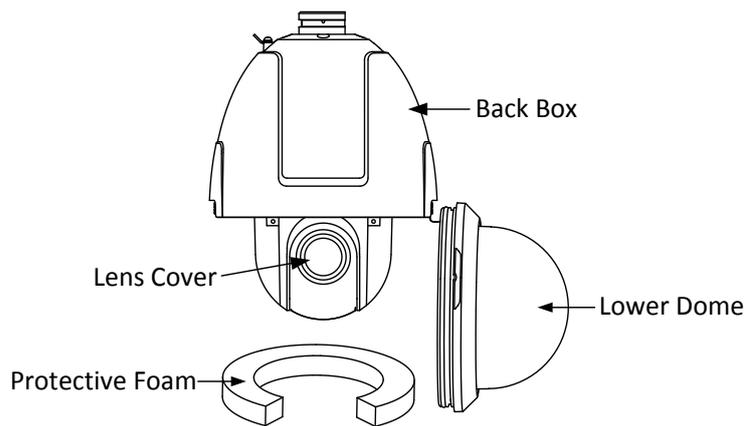

Figure 3-3 Remove the Lower Dome
1. Loosen the two lock screws on the both side of the speed dome. Pull the lower dome to separate it from the back box as shown in Figure 3-3.